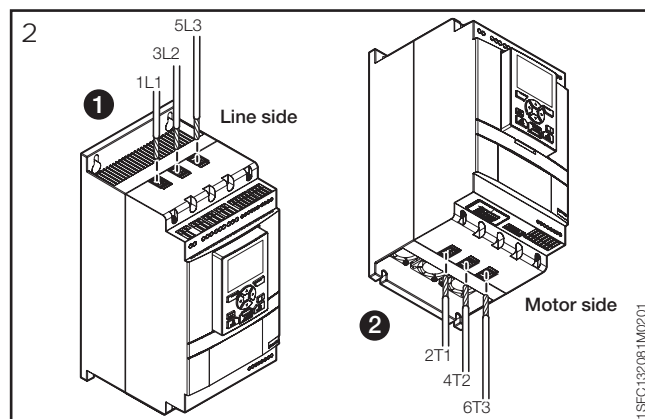
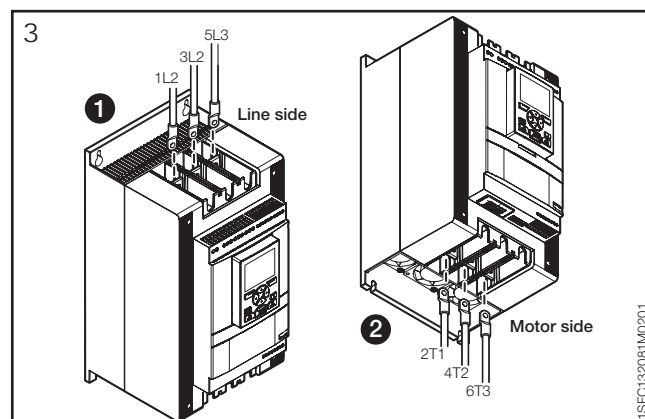

Figure 2: Terminal connection clamps.
Figure 3: Terminal connection bars
2. Connect the main circuit: terminals 1L1 - 3L2 - 5L3 to the line side **1**, and terminals 2T1 - 4T2 - 6T3 to the motor side **2**, see **Figure 2**. Use wire connection for PSTX30-105, see **Figure 2** and terminal connection for PSTX 142-370, see **Figure 3**.
3. Connect the line side to terminals 1L1, 3L2, 5L3. see **1** **Figure 2** and **3**. Connect the motor to terminals 2T1, 4T2, 6T3 on the motor side, see **2** **Figure 2** and **3**